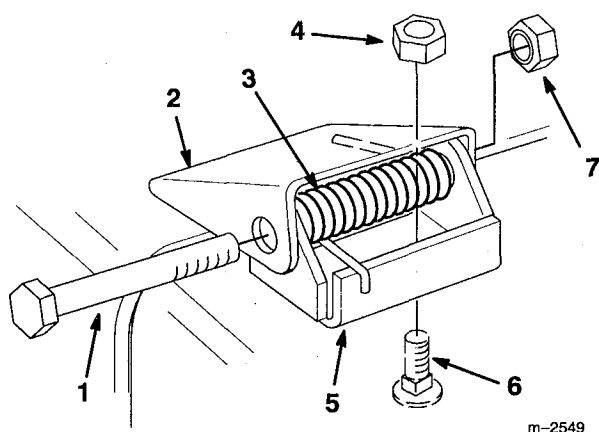

Figure 29
1. Remove the locknuts, bolts and springs holding the deflector mounts to the pivot brackets (Fig. 29).
2. If the pivot brackets need to be replaced, remove the carriage bolts and cone locknuts holding the old brackets to the top of the discharge opening, then install the replacement pivot brackets. Make sure the carriage bolt heads are on the inside of the cutting unit (Fig. 29).
3. Install the deflector mounts onto the pivot brackets with the bolts, springs and locknuts. Make sure the straight ends of the springs are positioned between the deflector mounts and the grass deflector (Fig. 29).
4. Tighten the locknuts until they contact the pivot brackets (Fig. 29).